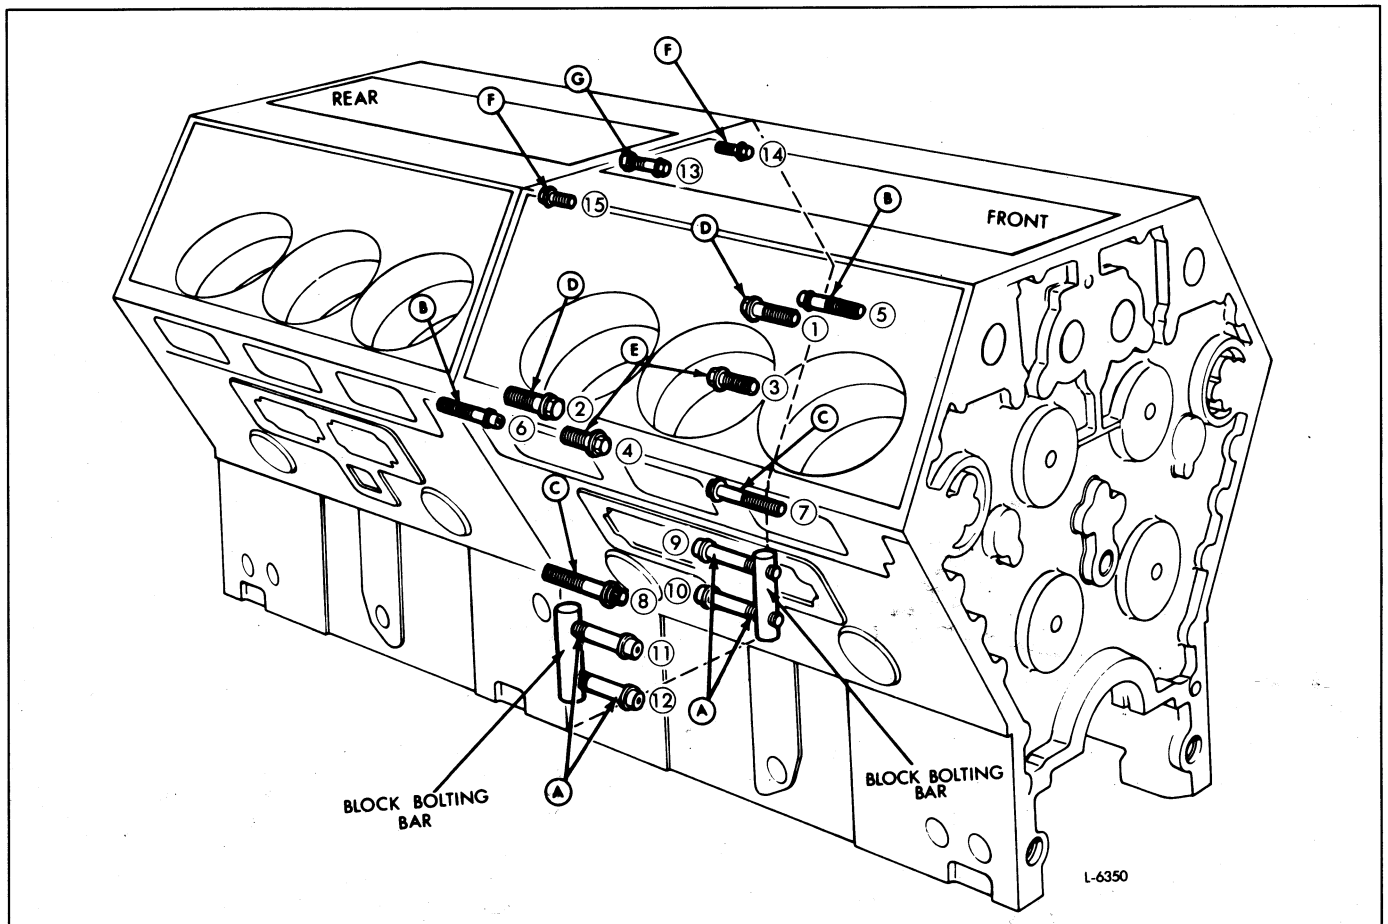

Fig. 11 - Location, Size and Tightening Sequence of Cylinder Block Attaching Bolts
3. Refer to Fig. 11 and remove the fifteen (15) bolts securing the two (2) cylinder blocks together.
4. Remove four (4) 5/16"-18 x 5/8" bolts and lockwashers from the two (2) center upper cylinder block drain screens, located in the cylinder head area between both blocks. Remove both drain screens.
14. Position the two block bolting bars (Fig. 11) into the cylinder block and install the four (4) attaching bolts (A) and washers. Be sure to install cup plugs in the bolting bar holes.
15. Install the bolts and washers (B) through (F). A flat washer was used with the former socket head "B" bolts. Use torque wrench adaptor J 24533 when tightening "C" bolts. Refer to Section 1.3 for the IRr formular.
16. Install bolt, washer and nut (G) with the washer located on the bolt head side.
17. First snug all the bolts in sequence (Fig. 11). Then, tighten the bolts in the same sequence to the torque given in the Chart.